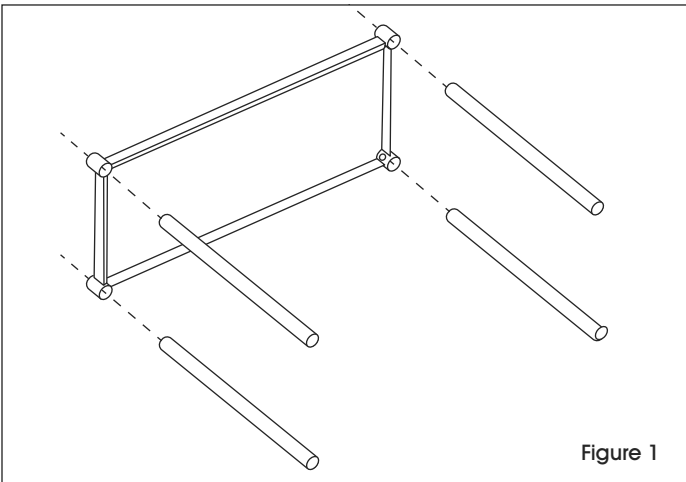

Figure 1
1. With the undershelf on its side, push the legs through the collars to the desired height. To ensure exact height, mark desired height on each leg with magic marker or grease pencil. (See Figure 1)